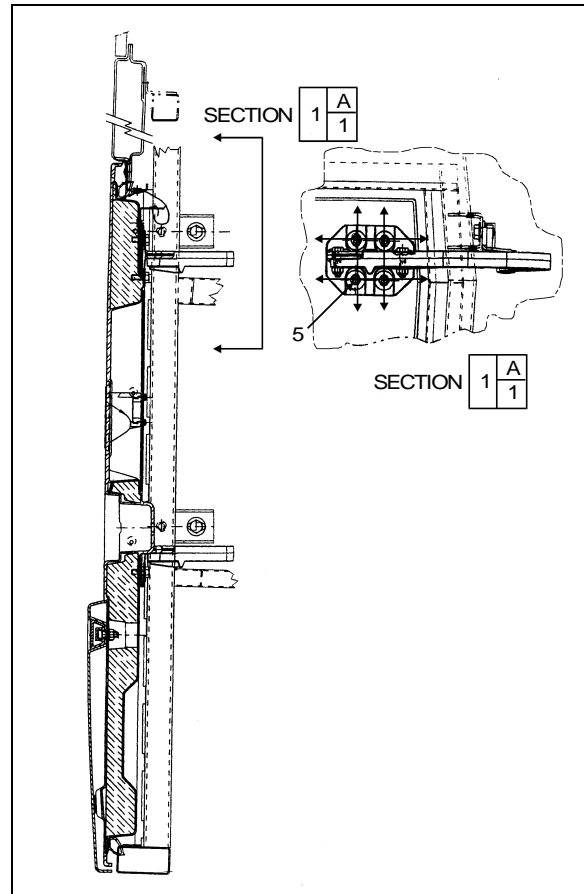

FIGURE 72: FRONT SERVICE DOOR
- Loosen screws (5, Figure 72) to allow the door to be shifted "UP or DOWN".